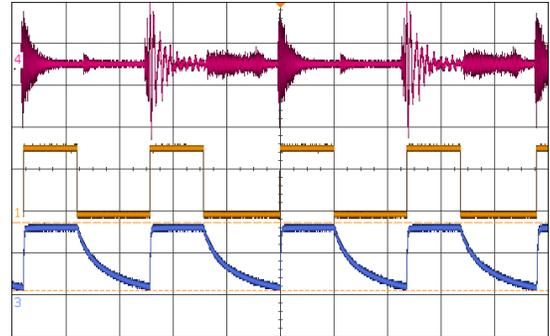
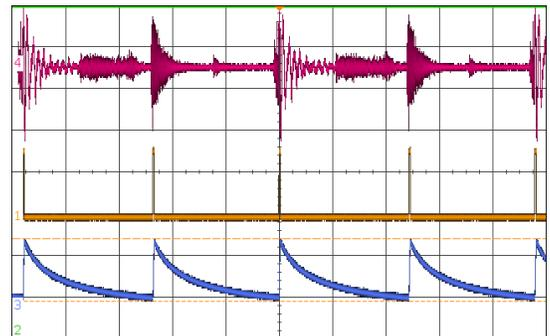
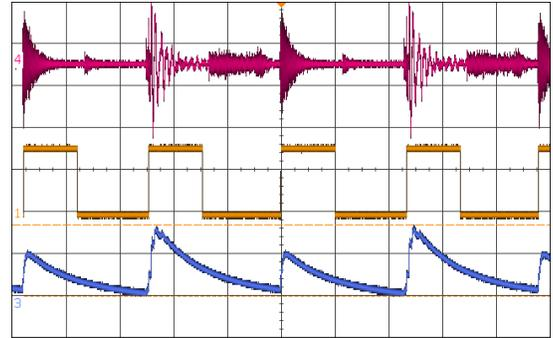

Figure 1
Figure 2
Figure 3
*Figures 1* and *2* illustrate this process. The input signal is shown in red, the gate output in orange, and the envelope output in blue.
In *Figure 1*, the **Sustain** pot is set to about 50% and the envelope sustains as long as the gate is also high. In *Figure 2*, the **Sustain** pot is turned fully counter-clockwise and both the pulse width of the gate output and the sustain period of the envelope become very short.
*Figures 3 and 4* use a similar input signal as *Figures 1 and 2* in the previous section. Notice that the envelopes (represented by the blue waveform on the bottom) are not uniform. Also notice that the shape of the envelope correlates more strongly to the contours of the input source (represented by red waveform at the top) as opposed to the gate (represented by the orange waveform in the middle). The amplitude of the input source directly influences the envelope's maximum voltage, allowing for more organic envelope shapes and introducing some variability into the CV output.